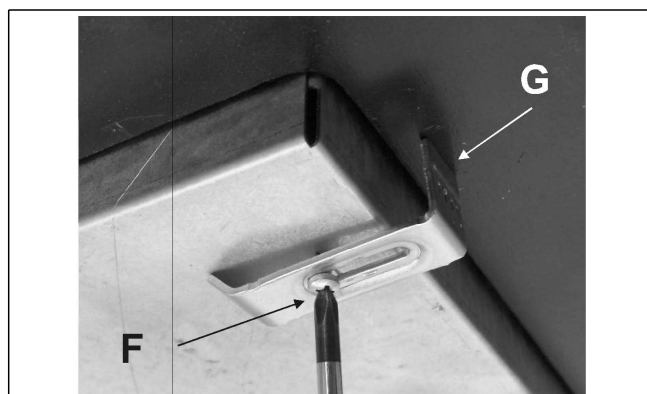

FIG. 9
- Position the hob in the hole in the unit and fasten it in place using the appropriate screws "F" of the fastening hooks "G" (see fig. 9).